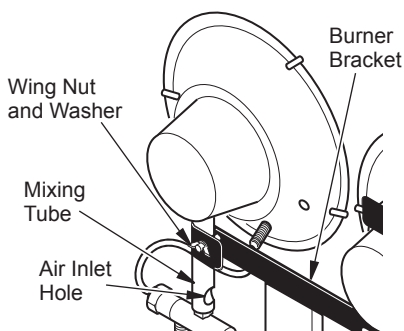

Figure 1 - Attaching Heater to Bracket
1. Place each burner head onto the burner bracket as shown in Figure 1.